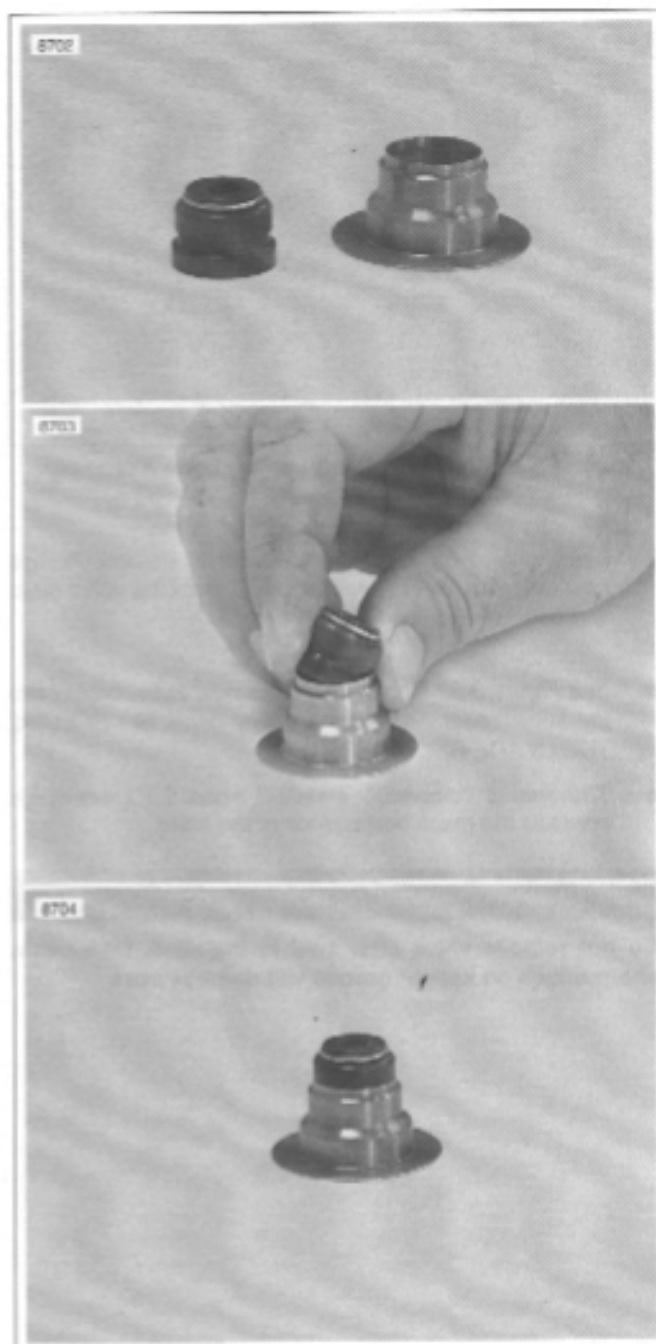

Figure 3-82. Valve Seal and Lower Collar Assembly
- See Figure 3-82. The valve seal is now incorporated into the lower collar and is installed by hand. **NO SPECIAL TOOLS ARE REQUIRED.**